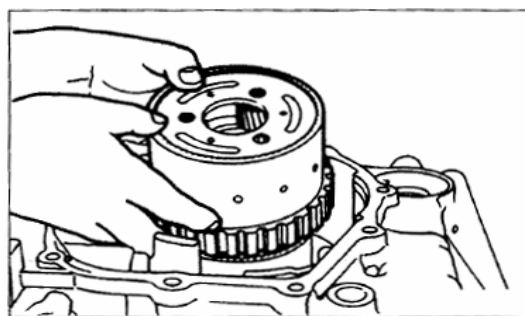

Fig 11A-81
- (27) Install the overdrive planetary carrier. See Fig.11A-81.